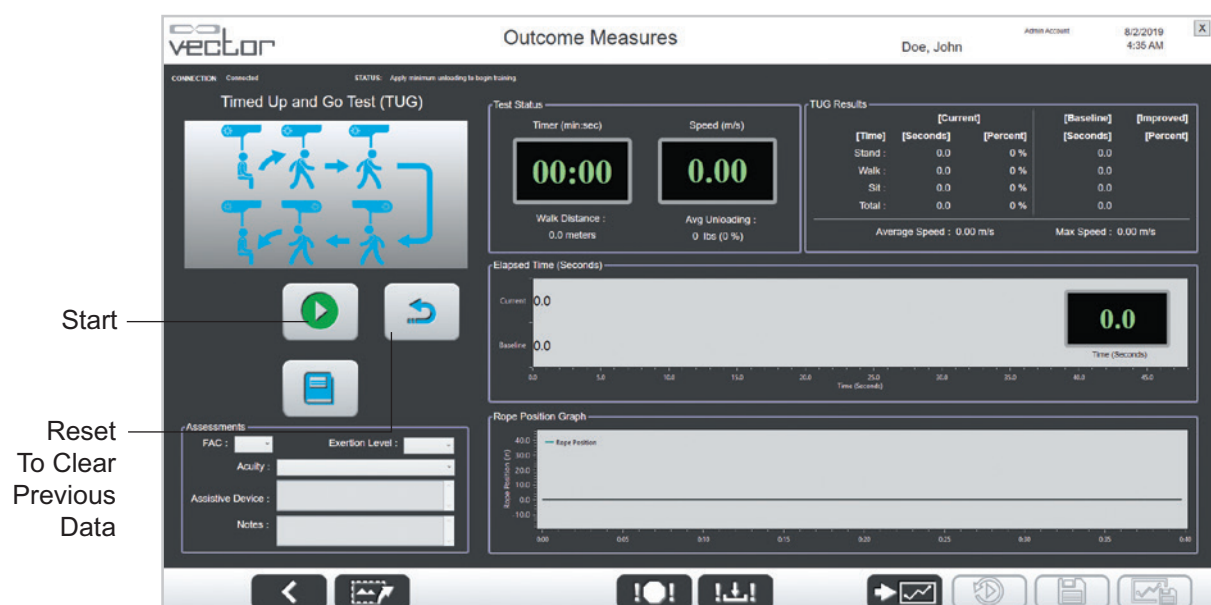

Figure 7-2: Outcome Measures TUG Test Screen
4. When you and the patient are ready, press the Start button. See Figure 7-2.
16. Press the Reset button to clear the previous test results before starting a new test. See Figure 7-2.